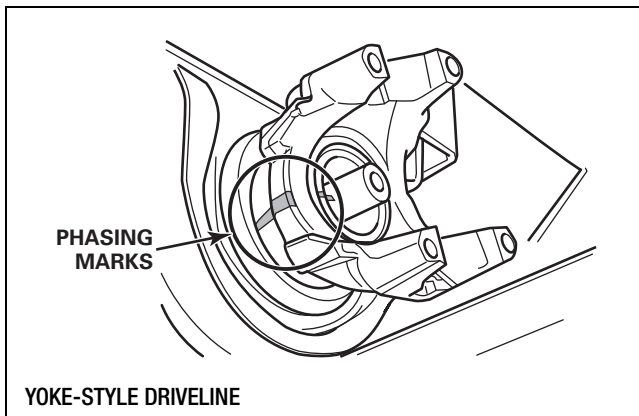
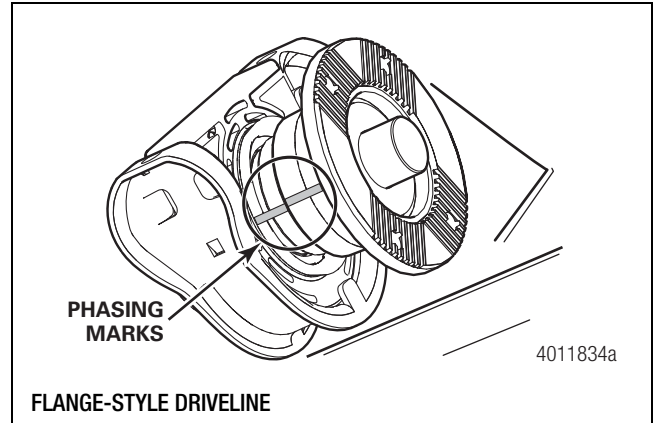

Figure 9.6
Figure 9.7
2. Mark the end yoke or flange counterbore to the coupling shaft "nose." This will help you to reassemble the center bearing end yoke or flange in its original phased position. Figure 9.6 and Figure 9.7.
5. Use a rubber hammer to tap the yoke or flange onto the coupling shaft splines. The phasing marks on the driveline must be aligned. Figure 9.6 and Figure 9.7. Continue to tap the yoke or flange until it is completely seated against the center bearing. Do not use the nut to draw the yoke or flange down.